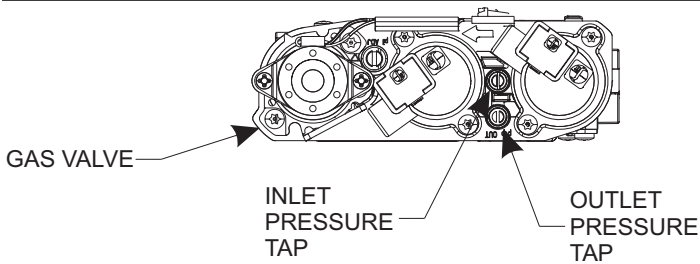

Figure 17
**NOTICE:** The gas control is equipped with a captured screw type pressure test point, therefore it is not necessary to provide a 1/8 inch test point up stream of the control. **See Figure 17.** When using copper or flex connector use only approved fittings. The fireplace and its individual shut-off valve must be disconnected from supply piping system during any pressure testing of that system at test pressures in excess of 1/2 psig (3.5 kPa). The fireplace must be isolated from the gas supply piping system by closing its individual manual shut-off valve during any pressure testing of the gas supply piping system at test pressures equal to or less than 1/2 psig (3.5 kPa).